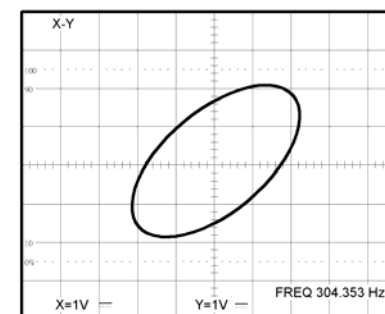

Figure 5-7 Typical single X-Y display.
To compare the frequency and phase between two signals by using the X-Y mode. The X-Y waveform displays different amplitude, frequency, and phase. The figure 5-7 shows a typical waveform made up of two signals that are of the same frequency and amplitude, but approximate 45° out of phase.
3. Set the X-Y button to single X-Y operation (shown as Fig. 5-7 below). Use the HORIZONTAL POSITION control to adjust the X-axis.